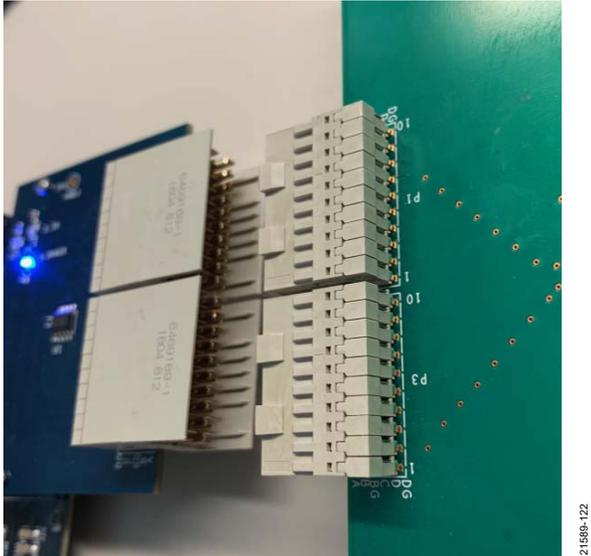

Figure 21. CMOS DAC/DPG2 Connected to AD-DAC-FMC-ADP
6. Connect the male interface of the CMOS DAC/DPG2 board to the **AD-DAC-FMC-ADP** female interface as shown in Figure 21.